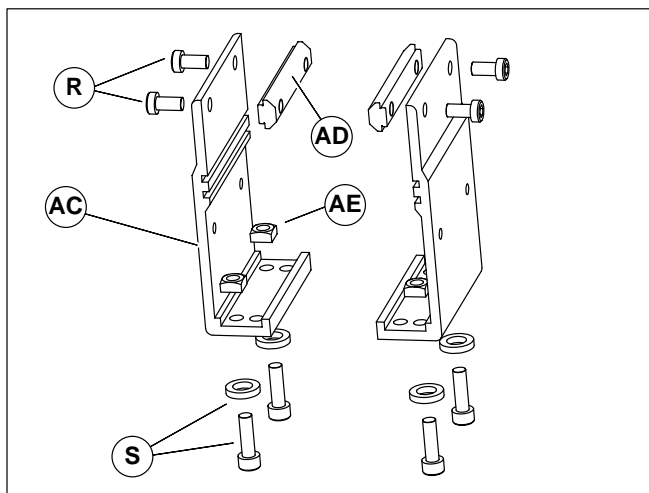
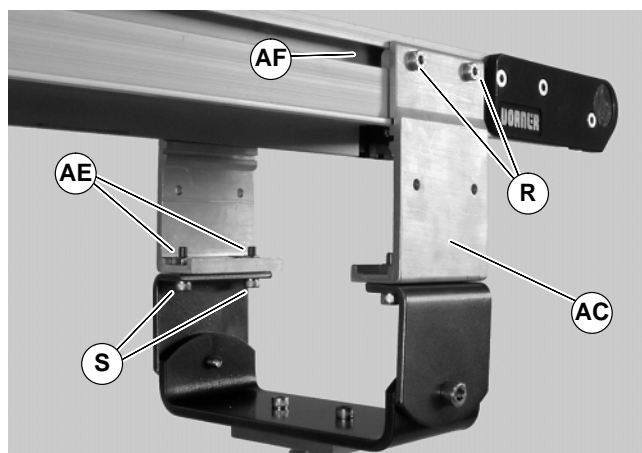

Figure 19
Figure 20
1. Gather components (Figure 19).
2. Remove screws (R & S of Figure 19), nuts (AE) and T-bars (AD) from brackets (AC).
3. Insert T-bars (AD of Figure 19) into conveyor side slots (AF of Figure 20). Fasten brackets (AC) to conveyor with mounting screws (R).
4. Fasten brackets to stand with mounting screws & washers (S of Figure 20) and nuts (AE).
5. Tighten screws (R & S of Figure 20) to 80 in-lb (9 Nm).
- Fasten brackets to stand with mounting screws (AO of Figure 20), washers and nuts (AR).
- Tighten screws (AN & AO of Figure 20) to 80 in-lb (9 Nm).